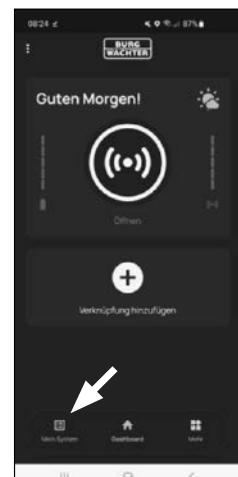

Fig. 4
- ⑦ The *BURGsmart* app main screen appears. Open the "My System" menu at the bottom left (Fig. 4).